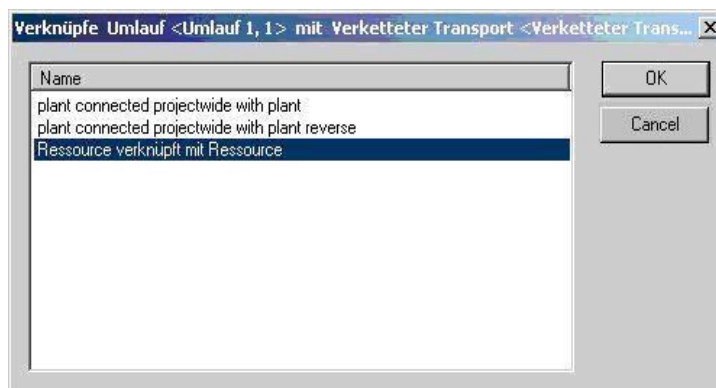

Figure 40: Select Circulation for Relation Dialog
- 4) Select the relation. *Please refer to the Figure 40.*
- 3) Select the relation in the dialog. *Please refer to the Figure 40.*
- 4) Select the relation in the dialog. Please refer to the Figure 40.